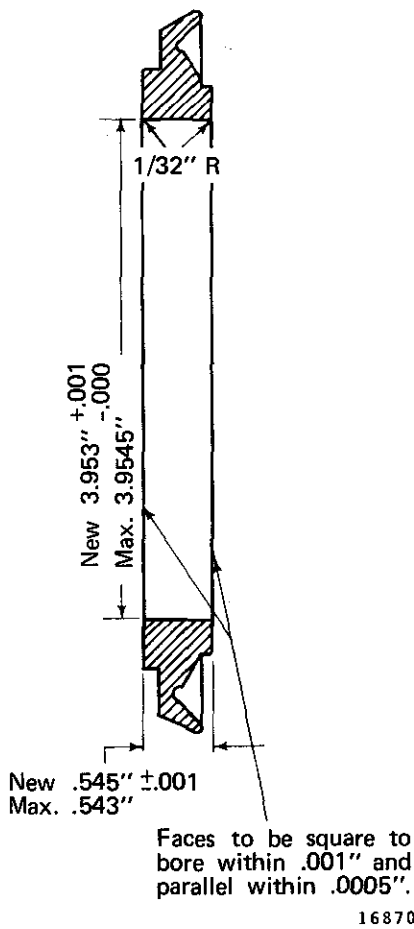

Fig. 4 – C.E. Oil Thrower
1. Check the oil thrower bore diameter, Fig. 4. It should be within 3.953" to 3.9545".